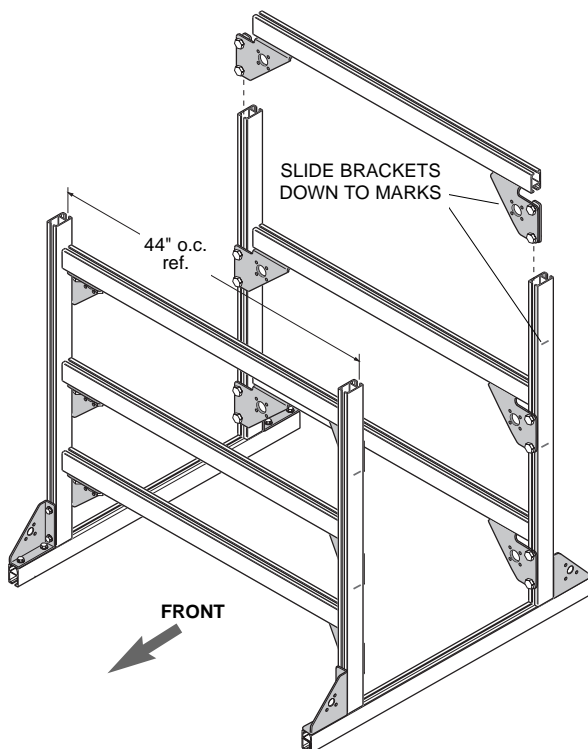

Figure 7.
7. Install cross rails from Step 5 by sliding brackets down uprights until bottom of brackets are on marks made in Step 6. Finger tighten bolts to hold on marks (Fig. 7).